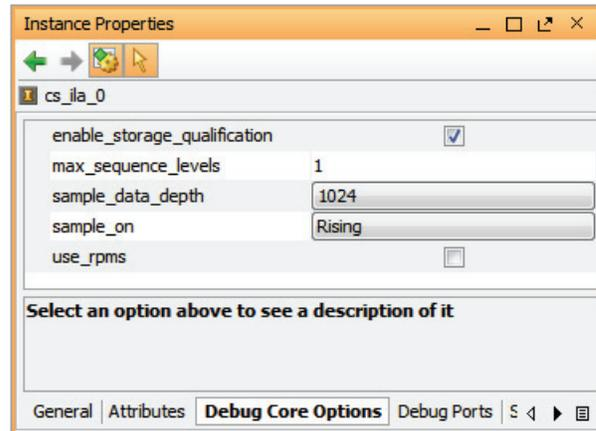

Figure 12-7: Instance Properties - Debug Core
2. In the Instance Properties view, select **Debug Core Options** to view and configure the debug core parameters as shown in Figure 12-7, page 374.